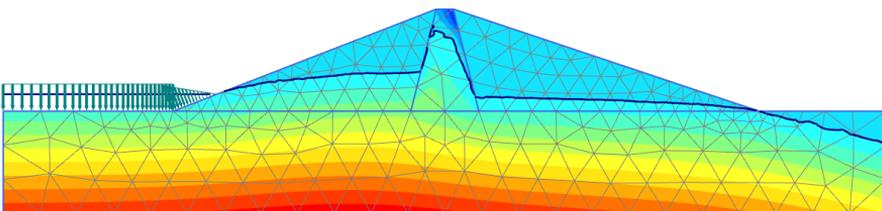

Figure 8.16 Pore pressure distribution, (p_{active}), after slow drawdown
- The pore pressure distribution after slow drawdown of the reservoir level (Figure 8.16).